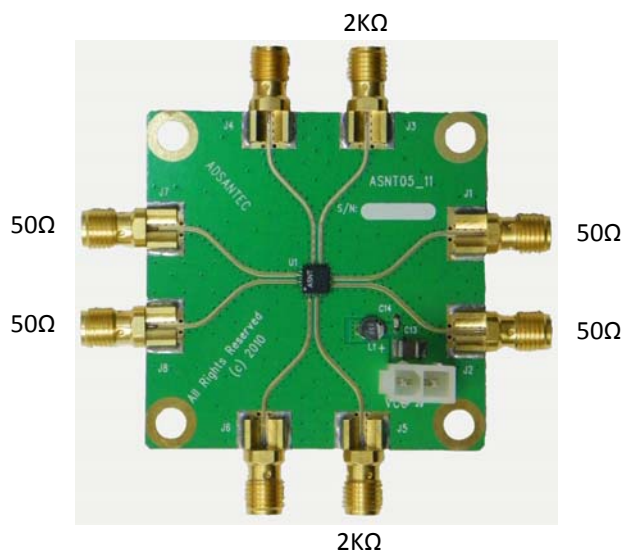

Fig. 5. Impedance of I/O Connectors
- Measure the resistance of all connector pins to VCC, including the power supply, while making sure the board is grounded. All I/O ports should measure 50Ohms while on the power supply connector, VCC should be a short, and GND should be high impedance. tnp/tnn should measure 2.0KOhms. Fig. 5 shows the resistance values of the described I/O connectors.